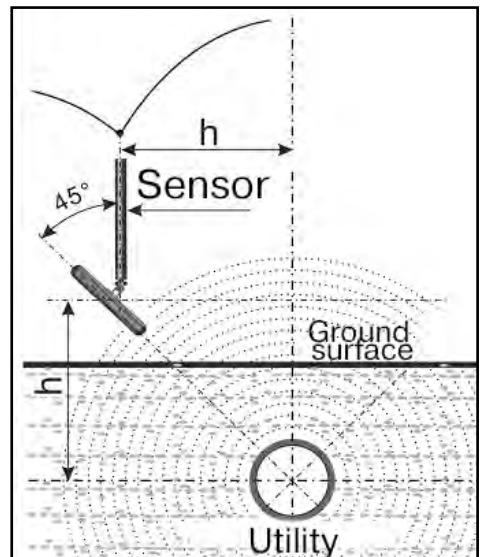

Fig. 5.1
2. Fix the sensor antenna at a 45° angle to the ground surface, minimum of the signal is observed at a distance from the point «above the route», equal to the depth of the utilities, when the antenna axis intersects the axis of the route. This is the indirect method of measuring the depth of utility (**fig. 5.1**)